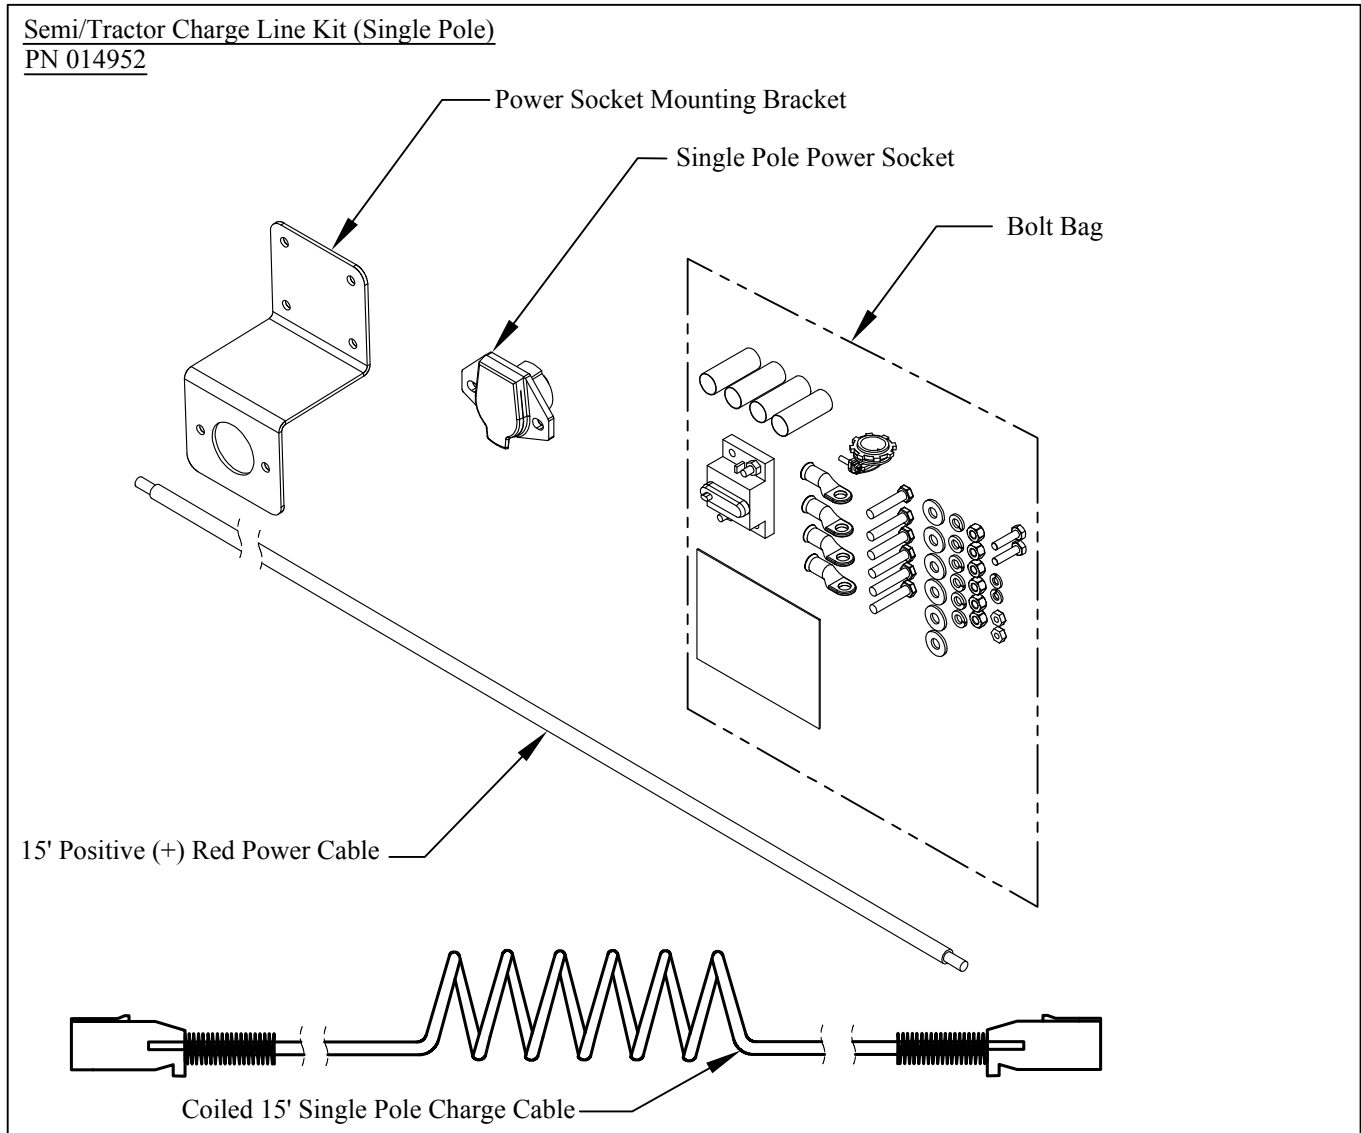

Figure 1: Part Identification.
1. Verify the parts of the **Semi/Tractor Charge Line Kit** (Figure 1).